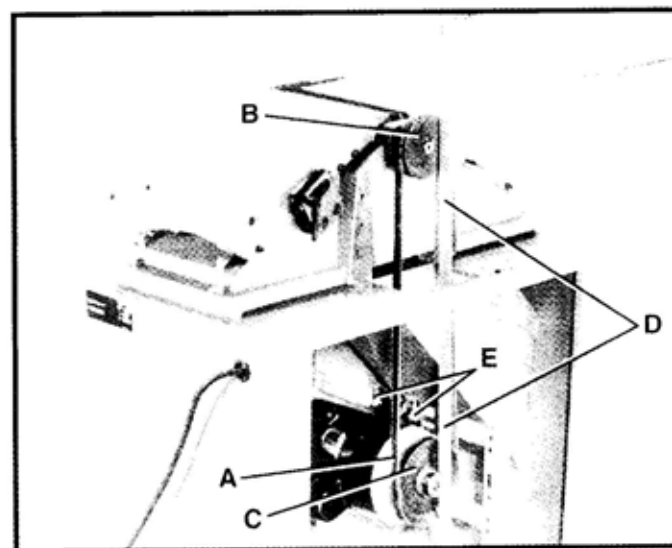

Fig. 12
2. Make certain the motor pulley (C) Fig. 12, is aligned with cutterhead pulley (B) by placing a straight edge (D) onto the face of each pulley as shown.
3. If an adjustment is necessary, the motor pulley (C) Fig. 12, can be moved in or out on the motor shaft, or the motor can be moved by loosening four mounting screws, two of which are shown at (E) Fig. 12. After adjustment is made, tighten the four motor mounting screws or the set screw on the hub of the motor pulley, depending on which adjustment you made.
Proper belt tension is obtained when there is approximately 1" deflection at the center span of the belt, using light finger pressure. If an adjustment is necessary, the motor can be raised or lowered by loosening four mounting screws, two of which are shown at (E) Fig. 12.